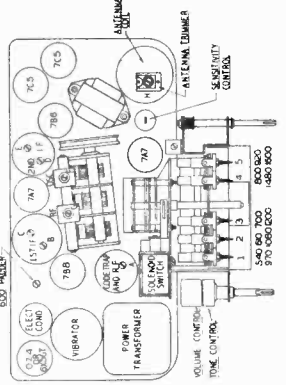

Fig. 5.
NOTE: This receiver is equipped with an adjustable sensitivity control located on the top of the chassis as shown in Fig. 5. The control is set at the factory to a position which gives sensitivity of 8 microvolts at 1 watt output. It is found advisable to hold the receiver at this level as any higher sensitivity may result in excessive background noise and unless laboratory equipment is available for measuring sensitivity, it is not advisable to change this setting.
I.F.: The receiver must be in one of the automatic positions. The signal generator is set at 455 K.C. and fed through the special Zenith antenna dummy to the receiver. The code trap adjustment screw A (see Fig. 5) is adjusted for maximum response. The adjustment screws B, C, D and E are then adjusted in order for maximum response on the output meter (See Fig. 5). The code trap A is then adjusted for minimum response.
R.F.: The receiver is returned to manual and the tuning control is rotated until the condenser plates are out of mesh (1600 K.C.). Set the signal generator to 1600 K.C. and adjust the 1600 K.C. osc. trimmer F (See Fig. 5) for maximum response.
Set the signal generator to 1400 K.C. and rotate the tuning control until a signal is heard and adjust the R.F. trimmer G and antenna trimmer H (See Fig. 5) for maximum response.
Set the signal generator to 600 K.C. and rotate the tuning control until the signal is heard. The condenser gang is then rocked slightly while adjusting the 600 K.C. paddler I (See Fig. 5) to maximum reading on output meter.